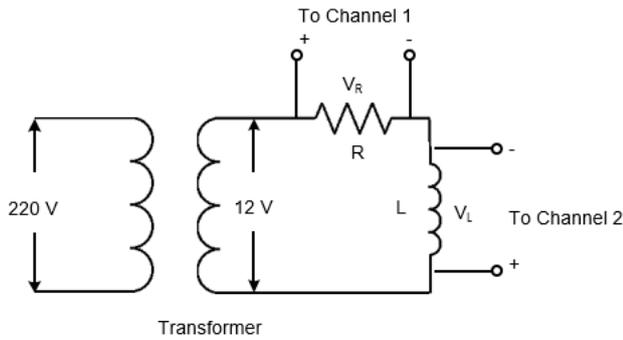

Figure 3: Experimental setup for R-L circuit
1. Make the circuit connection for the R-L circuit, (Fig.3). Connect the oscilloscope probes properly as shown.